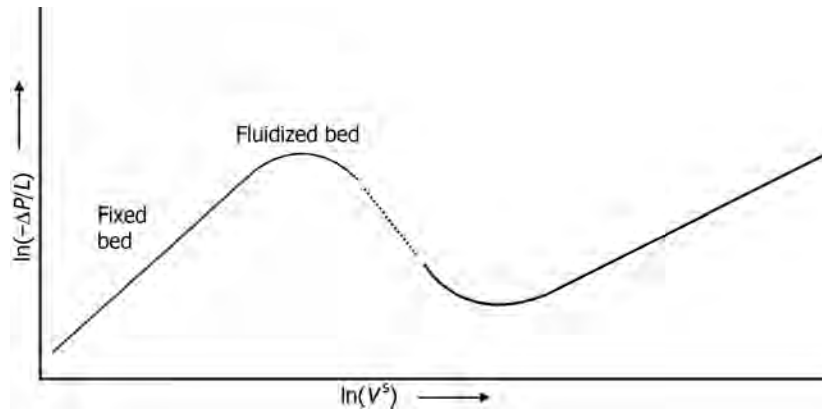

FIGURE 7.11 Pressure drop in a fluid–solid bed as a function of fluid superficial velocity.
- Figure 7.11 illustrates the history of transformation of pressure drop from fixed bed to fluidized bed to pneumatic conveyance as superficial velocity increases.